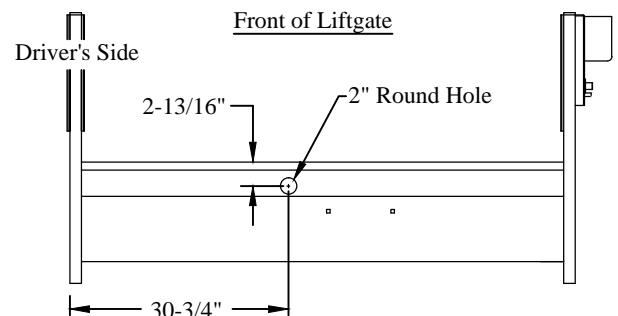

Figure 13: Spare tire access.
2. **Remove** and **Discard** the black plastic plug from the 2" round hole at the dimensions shown (Figure 13).
3. **Verify** spare tire access operation by inserting the spare tire crank rod through the access hole (Figure 13).